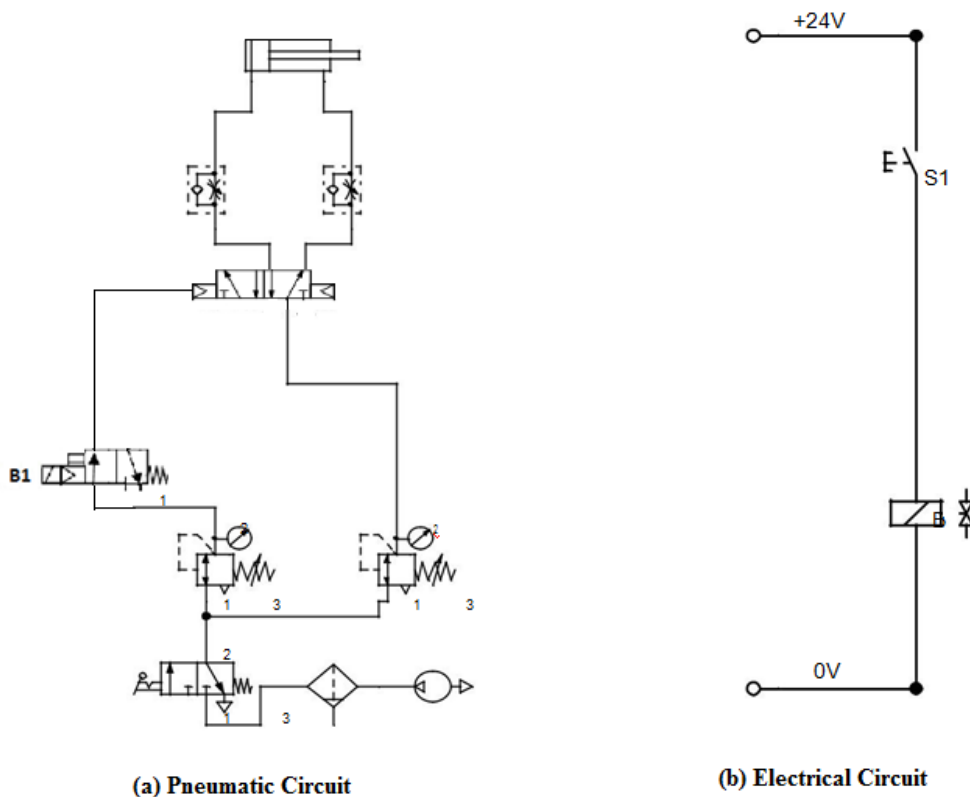

Figure 2.4: Circuit drawing of pneumatic and electrical circuits for Task 2
1. Connect the pneumatic circuit and electric circuit as shown in **Figure 2.4(a)** and **(b)**.